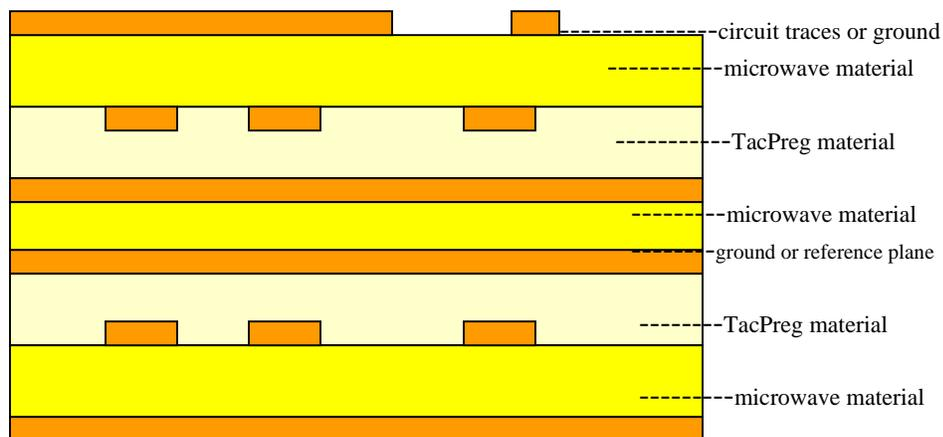
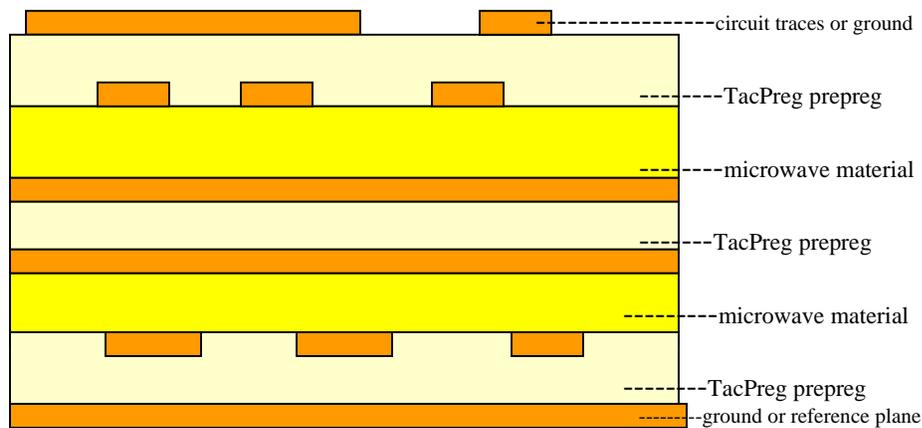

Figure 8. All microwave materials with three dielectric layers and two layers of prepreg.
Figure 9. Similar design as in figure 8. but using two layers of laminate and three areas of microwave prepreg material.
Now that we have looked at the various prepregs available, we should look at another type of construction that microwave design engineers are looking at for lower cost constructions; the foil lamination constructions or foil lams as they are commonly known. What do we mean when we say foil lam builds? A design typically uses copper clad laminates and prepregs are used as dielectric layers on the inside of the board. What if you could replace the external laminate layers on the outsides of the board with a prepreg and laminate a piece of copper to that prepreg layer. You would eliminate a costly copper clad laminate and replace it with a low cost prepreg. Speedboard C has been used on foil lam constructions but only in applications where micro via technology was needed. The high cost of the Speedboard C made it an unattractive choice for low cost applications. Both prepregs from Rogers and Arlon present challenges for foil lam constructions because of low adhesion to copper foils. Special care and the recommendation to use special coppers make this a costly design. The TacPreg from Taconic offers the designer a choice to design with a foil lam build. TacPreg has excellent adhesion to copper foils and is the right material for lower cost foil lam constructions. The following design shows the effectiveness of using a foil lam construction. Figure 8 shows a design with three copper clad dielectric layers and two prepreg layers. Figure 9 shows the same design but using only two layers of copper clad laminate and three areas of prepreg.
Let's look at the cost of the various material stack ups. We will take a design similar to the design in Figure 8 and compare the cost of material on that design using three different manufacturing techniques.
2. Using Taconic RF-35 in conjunction with Taconic TacPreg as shown in Figure 8. This will use three layers of Taconic RF-35 and two areas of TacPreg prepreg
3. Using Taconic RF-35 in conjunction with Taconic TacPreg as shown in Figure 9. This will use two layers of Taconic RF-35 and three areas of TacPreg. This will also require two sheets of copper foil supplied by the printed circuit board shop.